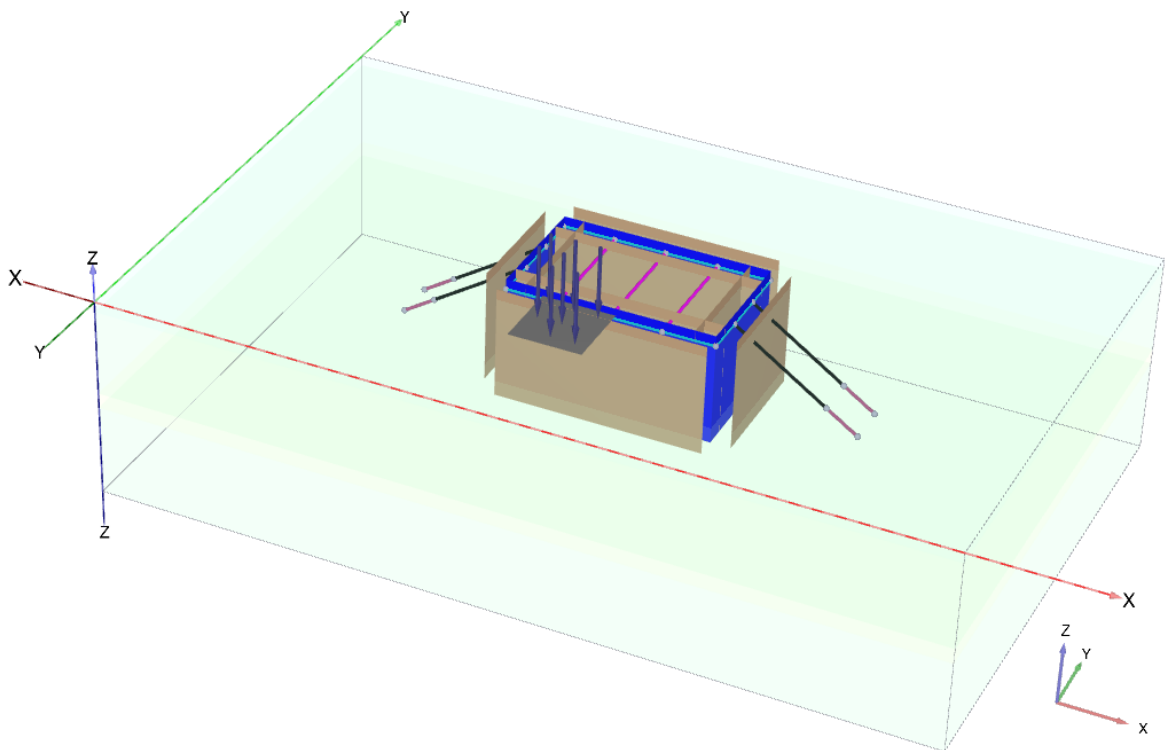

Figure 32: Structure mode - Complete project geometry
5.  Create a surface load defined by the points: (34 19 0), (41 19 0), (41 12 0), (34 12 0). The geometry is now completely defined (see Figure 32 (on page 51)).